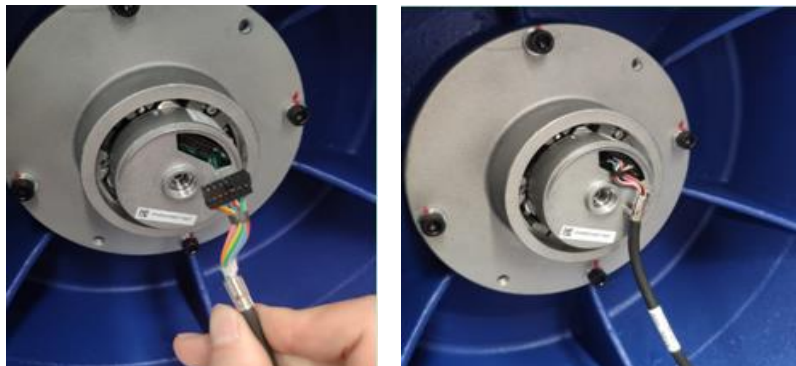

Figure 31
5. Install the encoder cable on the encoder. Take care to orient the plug and socket correctly. See Figure 31.